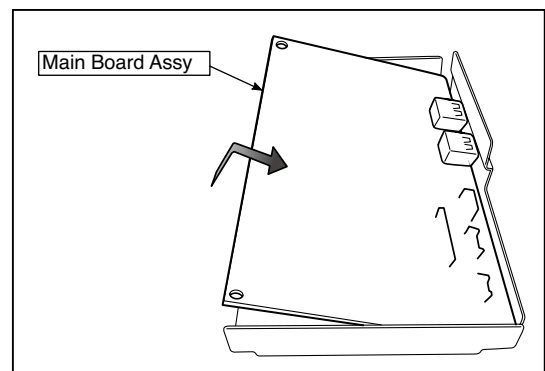

Fig.5
5.When replacing the Main Board Assy shown in the figure 5, insert the Main Board Assy from the oblique direction so that the parts mounted at the rear of the Main Board Assy are not damaged.